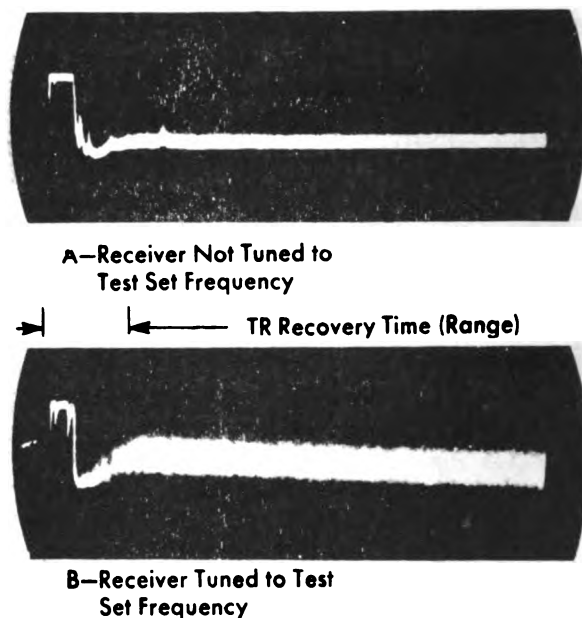

Figure 4-12. Receiver Tuning on CW and Alternate Method of Checking TR Recovery
(5) Perform Test 5, par. 11a (1) through par. 11a (9).
(6) Tune the SIGNAL FREQ knob for maximum signal height (See figure 4-12) keeping the signal below saturation.